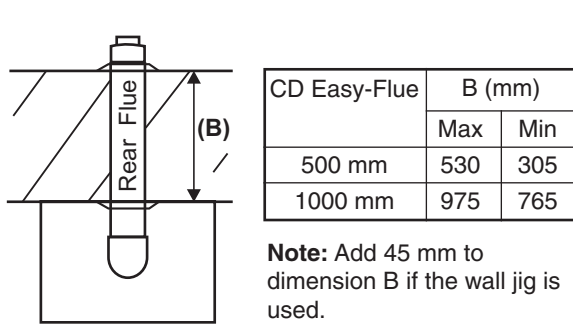

Fig. 5.7
## 5.7 FIT THE FLUE - Figs. 5.7 and 5.8
- When the flue length required is more than the maximum stated in Section 4.6, paragraph 1, refer to the table below and Figs 5.7 and 5.8.